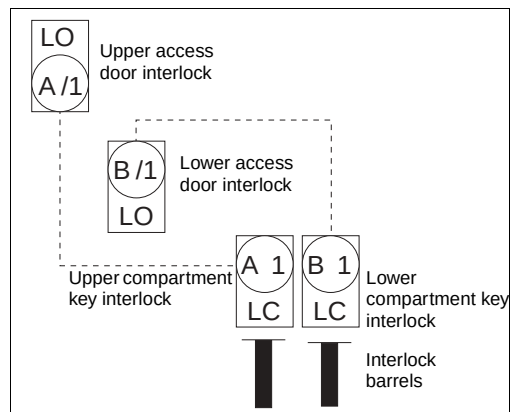

Figure 38: Interlock Status (Step 1)
1. To perform inspection, both access doors need to be open. If necessary, lock open both of the access door interlocks (see Figure 38) and open doors.